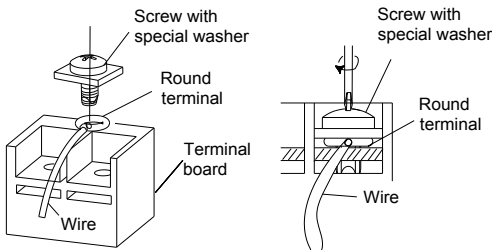

Fig. 4.37
- 4). Position the round terminal wire, and replace and tighten the terminal screw with a screwdriver. (Fig. 4.37)